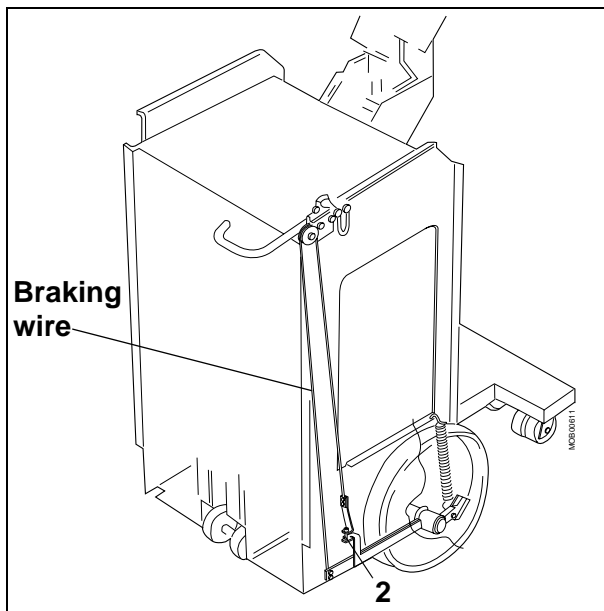

Fig. 23
- Tighten the adjusting screw with the brake released (pos. 2 / Fig. 23) until required brake force is obtained.